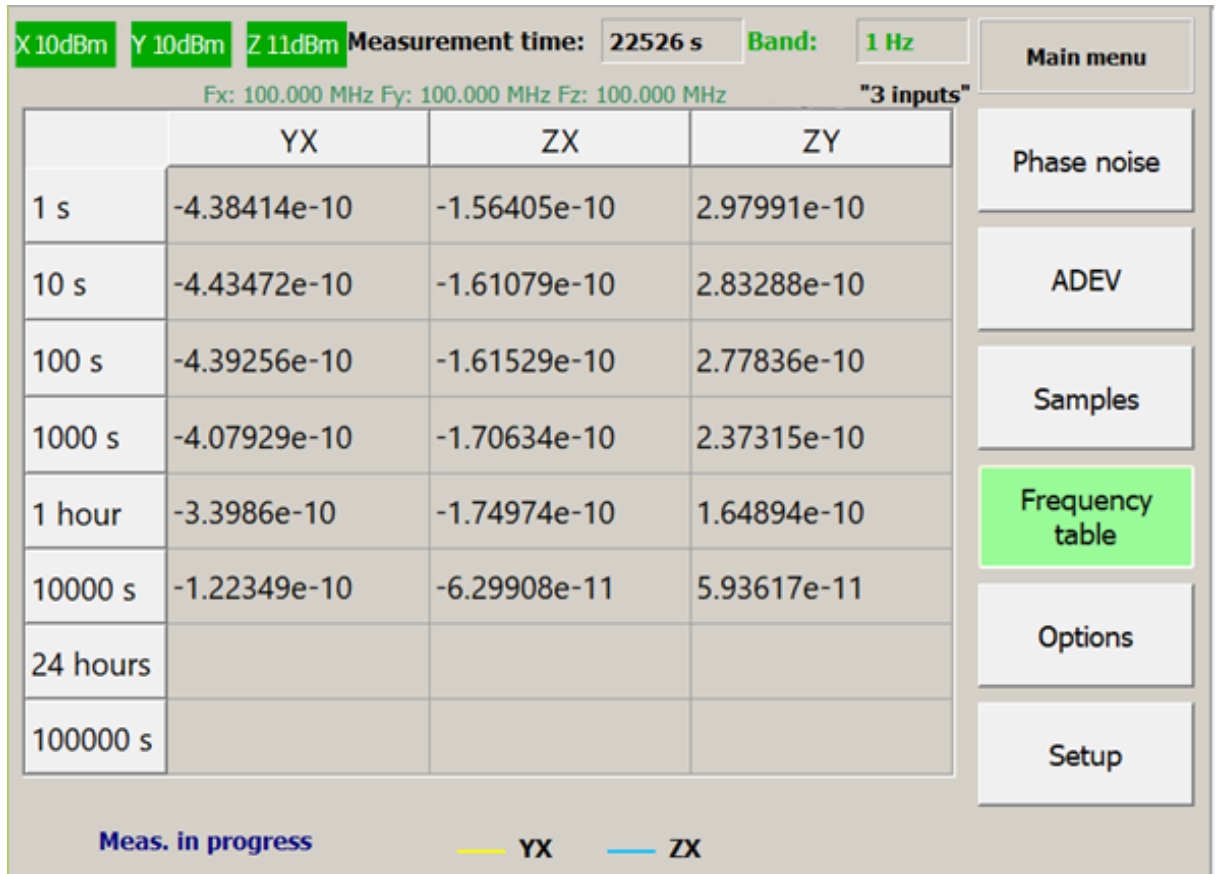

Figure 19. Frequency table
"Frequency table" menu. See the soft keys group pos. 3 on Figure 3. Frequency table (Figure 19) shows average relative frequency differences calculated for different averaging times.